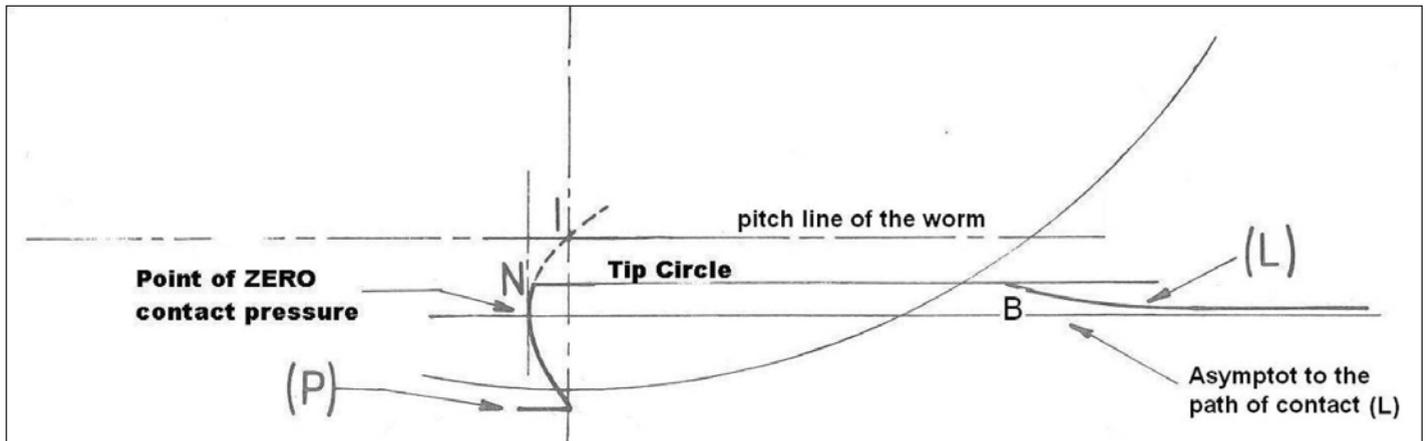

Figure 8 Limitation of gear mesh by the point of zero contact pressure angle.
4. In each offset plane, the rack profile of the worm, projection of the axial profile of the worm, allows to define the path of contact, which is the line along which the common point of contact between the flank of the worm and the conjugate flank of the worm wheel is moving during the gear mesh. From this line can be obtained the profile of the worm wheel. The shape of the path of contact can be concave or convex it; depends directly on the curvature of the rack profile of the worm. The pressure angle can be lower than zero. The zero contact pressure angle is a characteristic of worm geometry (Fig. 8).
- b. Either there is no active path of contact (Fig. 8) when the pressure angle is closed to zero; B is outside of the external surface of the worm wheel.